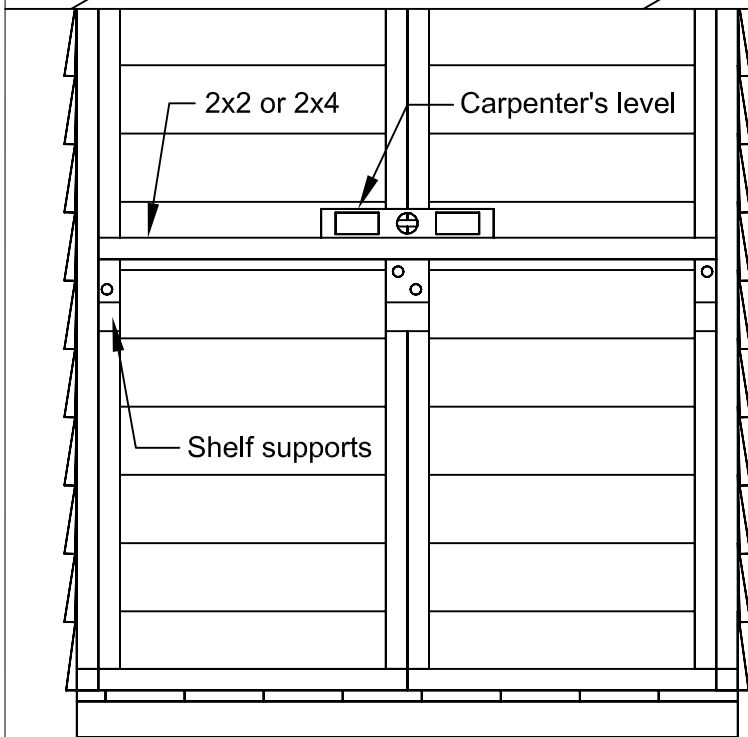

Figure S8
9. Using a 2x2 or a 2x4 and a 12" carpenter's level, mount the another shelf support at the opposite corner with 2 - 3" screw, make sure both corner mounts are level. Add the middle shelf support, levelled with the corner shelf supports. (Figure S8)